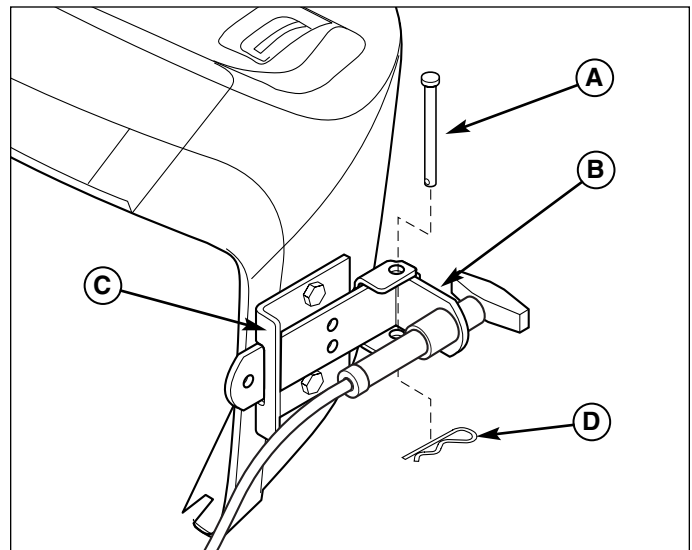

Figure 17. Install Remote Deflector Control
3. Install the remote deflector control handle (B, Figure 17) in the mounting bracket (C) and secure with a clevis pin (A) and hair pin clip (D).